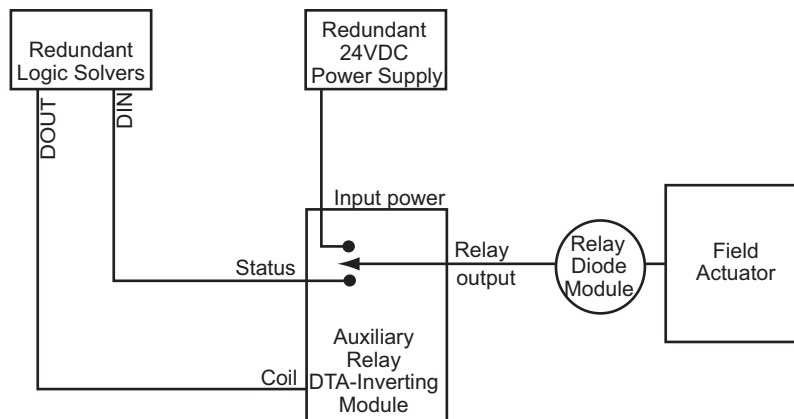

Figure E-1 Block Diagram for Fire and Gas Application
The Auxiliary Relay DTA-Inverting module has a connection to a redundant Logic Solver's discrete input and discrete output channels and connections to redundant 24 VDC power supplies. Field terminals are used to connect to the Relay Diode module that is located next to the field actuator as shown in Figure E-1.
- Two pin connections for auxiliary output contact closure (not used in the application depicted in Figure E-1)
The Auxiliary Relay ETA-Direct module has a connection to a Logic Solver's discrete input and discrete output channels and a connection to a dual 24 VDC power supply. Two field terminals are used to connect to the Auxiliary Relay Diode module that is located next to the field actuator as shown in Figure E-1.